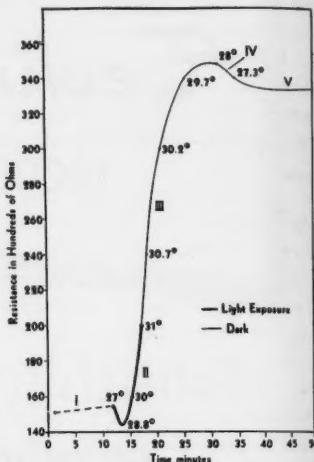

Fig. 1. Change in electrical resistance of a bichromated albumin film before, during, and after exposure to light.
Measurements similar to those of Mayer were made on very thin bichromated albumin films at the Lithographic Technical Foundation. The results of this study are shown in Figure 1. This figure shows a graph of the change in resistance (conductivity) of the coating with time, before, during, and after exposure to a white flame carbon arc light. The drop in the resistance during the first five minutes of the exposure is believed due to an increase in temperature of the film from its absorption of heat from the arc lamp. The effect of this increase in
The six electrons necessary in this reaction are furnished by the oxidized colloid (the pH of the dried coating usually is in the range of 4.2 to 5.0). The resistance-time curve in Figure 1 suggests that while this reaction might be taking place very slowly in the dark (I) and very rapidly during exposure to light (II), there is another reaction going on immediately after exposure.